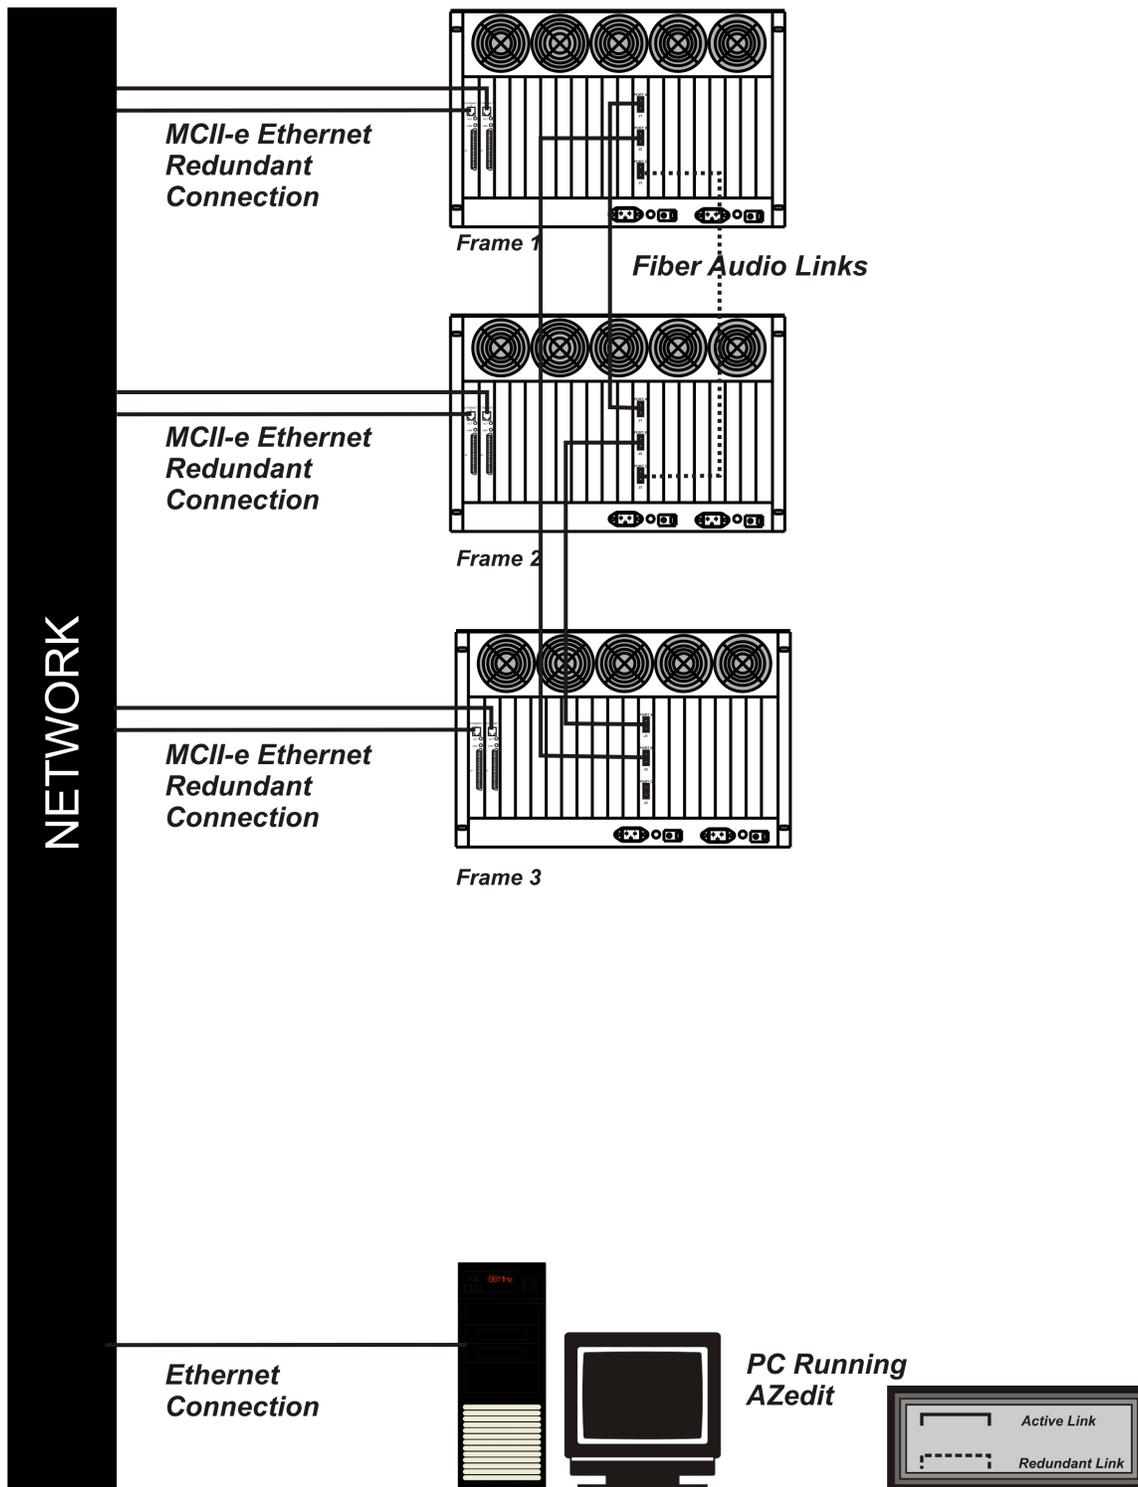

FIGURE 2. Partially Redundant system, including failover Master Controller
In a **Partially Redundant** system, multiple frames, but not all frames, have two (2) links configured between them. In the example shown in Figure 2, Frame 1 and Frame 2 have full redundancy between them; however, Frame 3 has only one (1) link to Frame 1. This means if the fiber connection between Frame 1 and Frame 3 is broken, Frame 3 cannot send or receive audio.